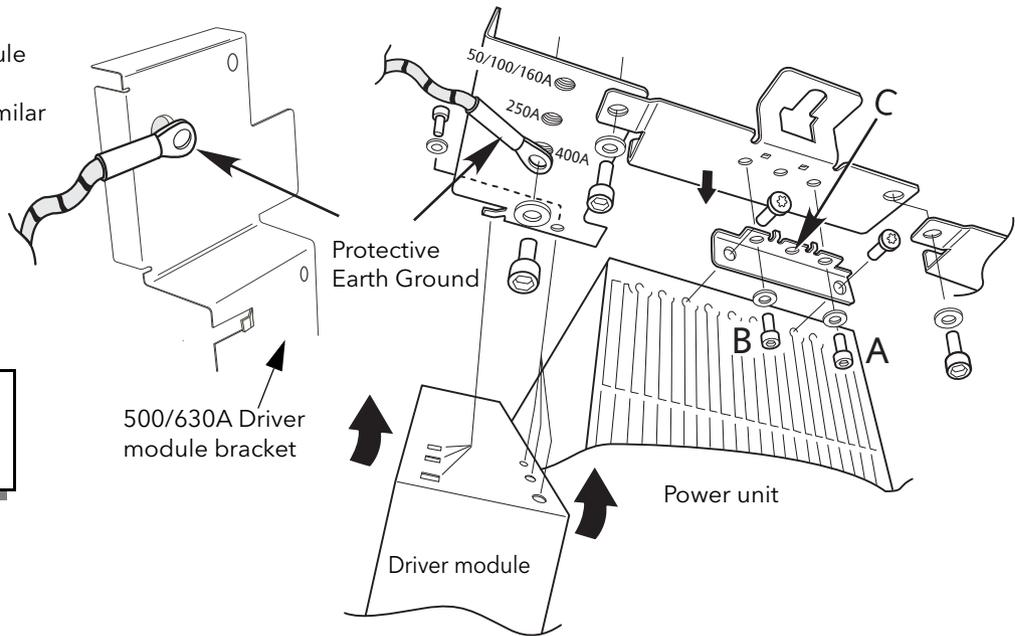

Figure 2.1.1a Bracket fixing details
Figure 2.1.1a, below, shows details of a generalised mechanical assembly for the top of the units. Assembly details for the bottom brackets is similar, except that there is no protective earth ground fixing. The power module shown is a 400 Amp unit for which the module is fixed to the support brackets using holes A and B. Lower current power modules use only one screw (C) to secure the module to the support bracket.
Figures 2.1.1a to 2.1.1f show fixing centres and other mechanical details for the various modules.